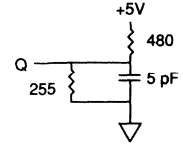

Fig. 2 OUTPUT LOAD EQUIVALENT
6. t_{HZCE} , t_{HZWE} and t_{HZOE} are specified with CL = 5pF as in Fig. 2. Transition is measured $\pm 500mV$ from steady state voltage.